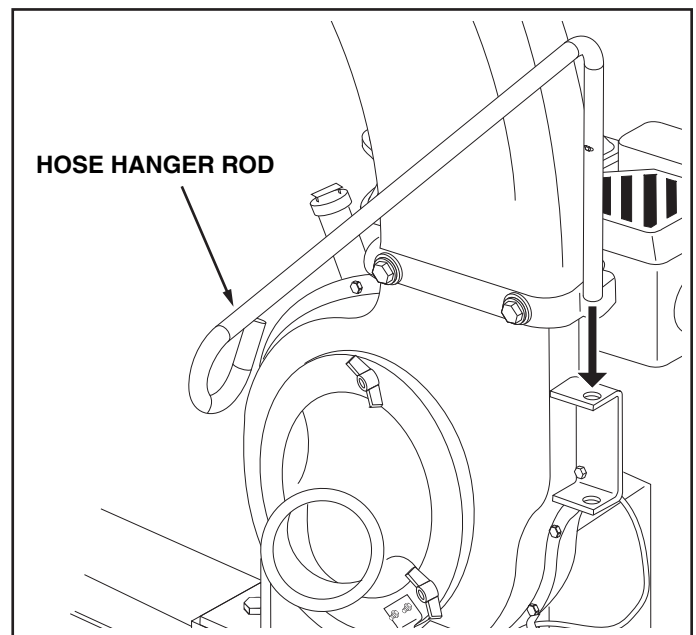

FIGURE 15
25. Place the hose hanger rod down into the hose hanger bracket on the impeller housing assembly. See figure 15.